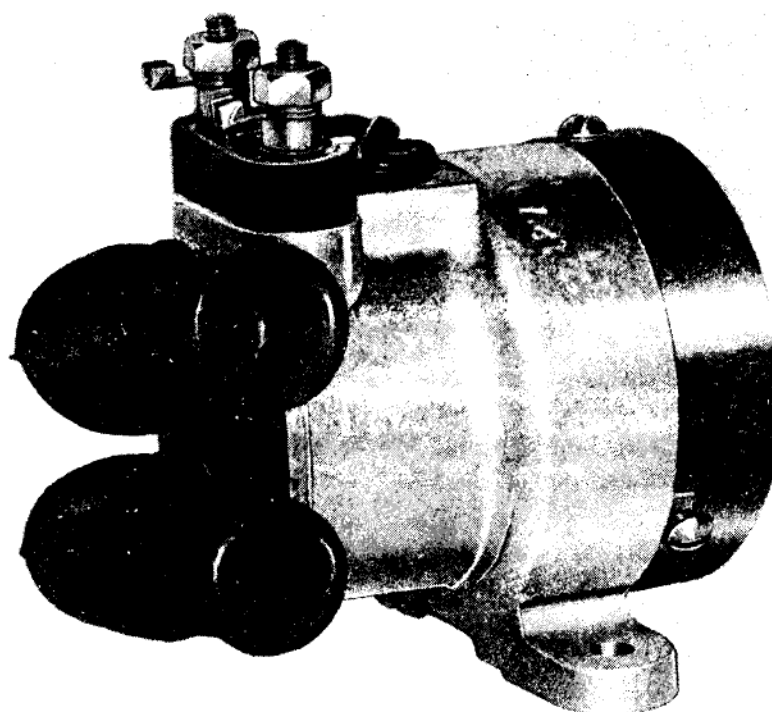
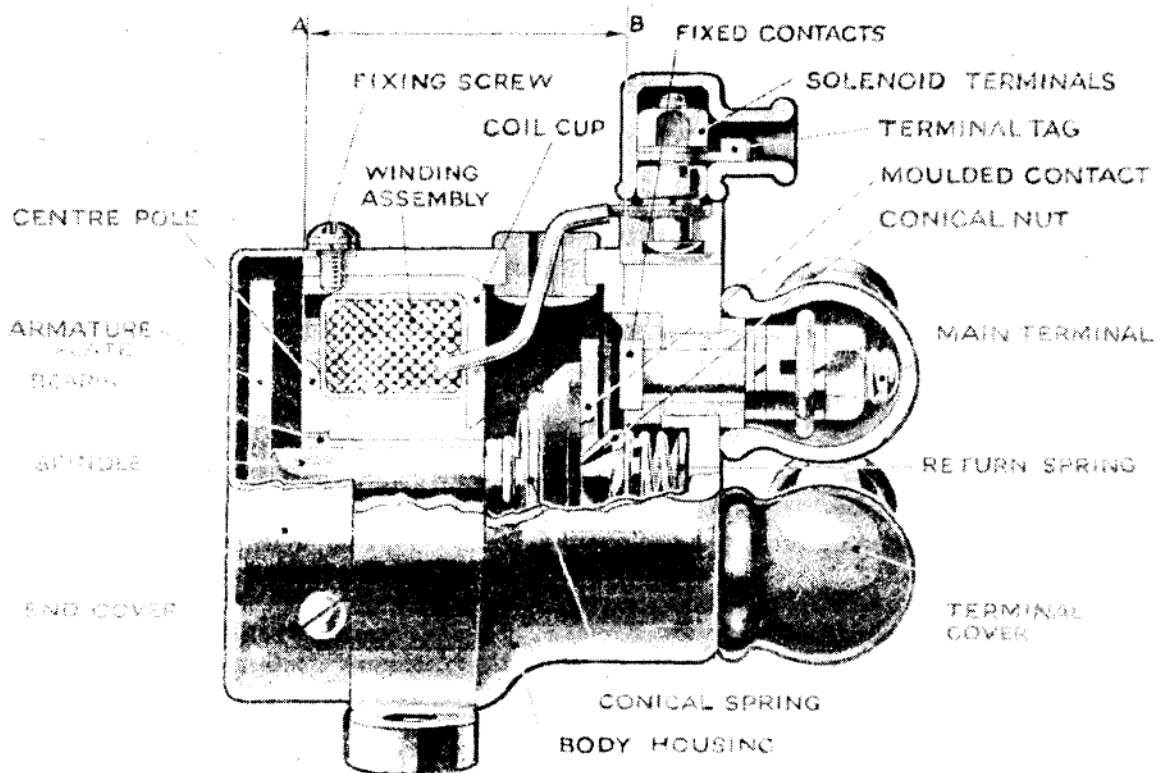

Fig. 1.—Rotax solenoid switch, Type D.0213
Fig. 3.—Sectional perspective of Rotax solenoid switch, Type D.0213
4. General and exploded views of the Rotax switch, Type D.0213 are shown in fig. 1 and 2, together with a sectional drawing in fig. 3 to which reference should be made when reading the following descriptive paragraphs.
15. The only servicing required on these switches, apart from checking that all electrical connections are clean and the terminal nuts secure, consists of the regular inspection of the fixed contacts. If the fixed contacts are pitted, the solenoid assembly together with the moving contact should be detached from the switch body in accordance with the information given below. The whole switch body assembly should be changed, complete with contacts. If there are facilities for skimming, however, the pitted contacts may be replaced by new ones and when fitted, the body of the switch should be placed in a lathe and the contacts machined in position to the dimension A—B shown in fig. 3, which should be $1.625 \text{ in. } \begin{matrix} + 0.000 \\ - 0.005 \end{matrix} \text{ in}$